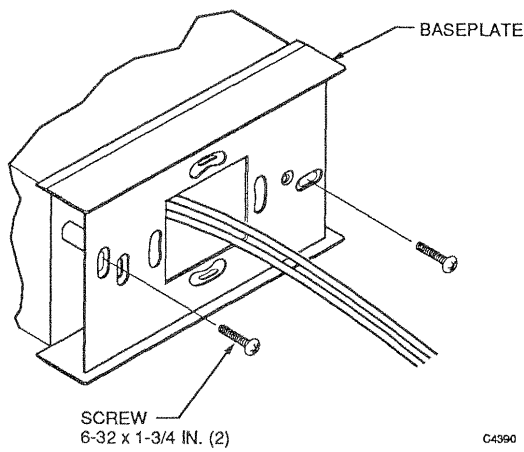

Fig. 2. Baseplate Mounting.
4. Thread the tubing through the opening in the baseplate. Secure the baseplate with two screws (Fig. 2). Level the baseplate before tightening the screws.